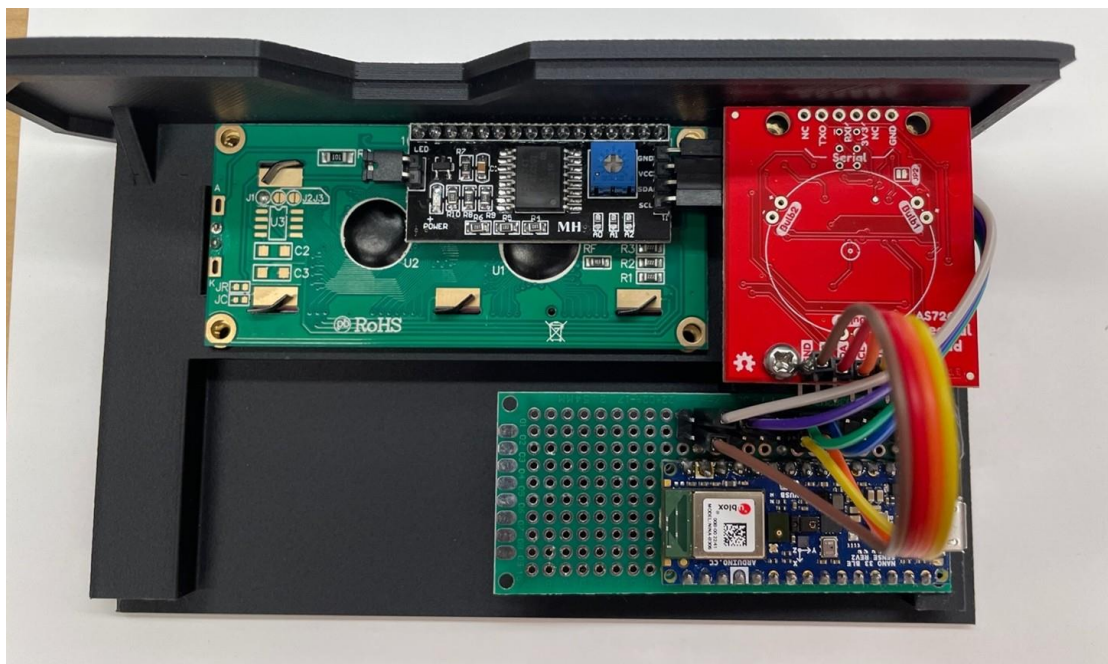

Figure 2.12 - Completed device internals.
7. Wire the LCD and AS7265x sensor ground wires to ground on the Arduino. Wire the 5V output pin of the Arduino to the LCD Screen 5V input. Wire the 3V output pin of the Arduino to the 3V input of the ADPS sensor. Both the screen and the sensor have SDA and SCL pins that should be connected to pins 4 and pins 5 respectively. The completed device is shown in Figure 2.12.